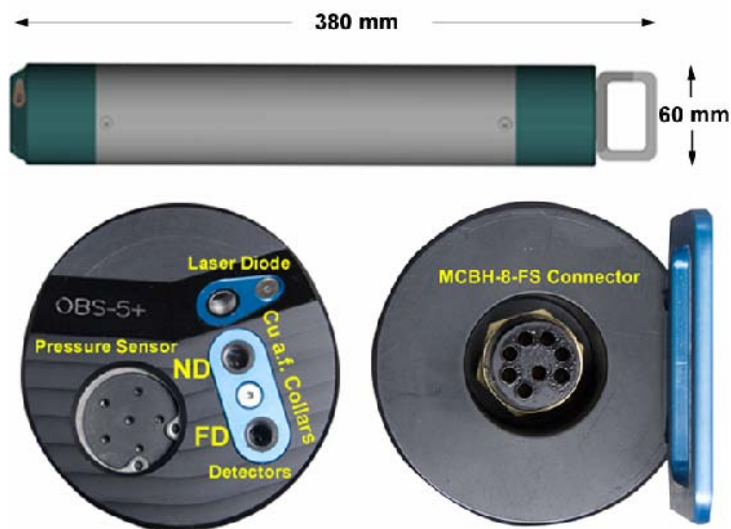
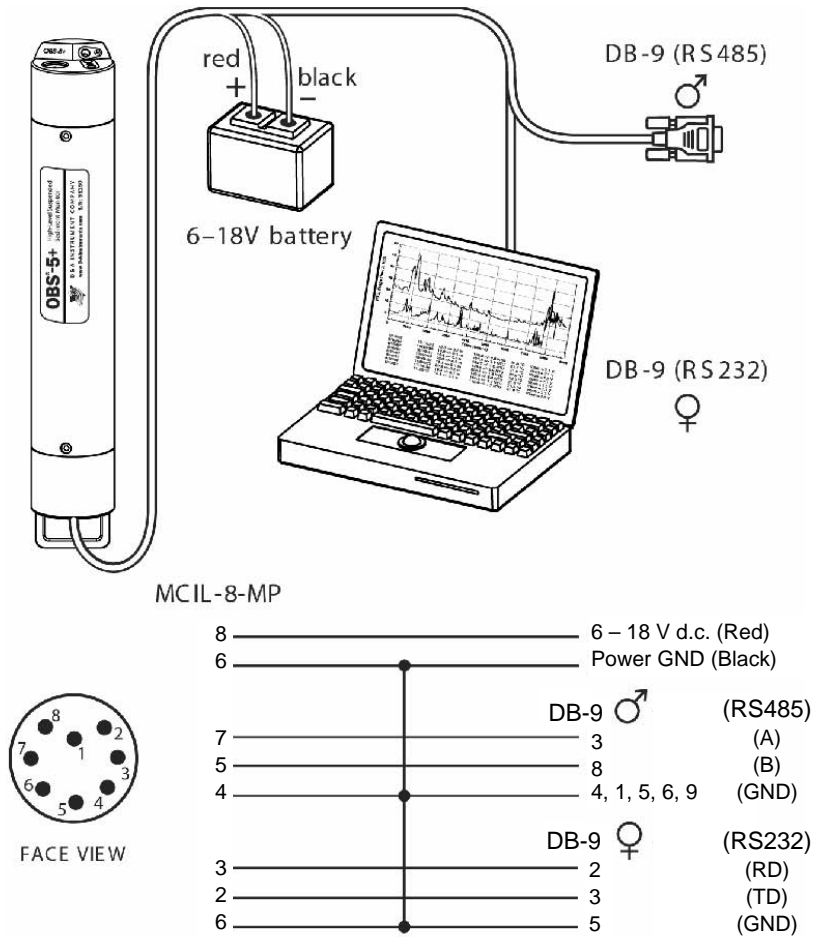

FIGURE 4-1. Dimensions (top), sensor endcap with copper antifoulant (Cu a.f.) collars (left) and connector endcap (right)
FIGURE 6-1. Electrical connections
FIGURE 4-1 shows the dimensions of the OBS-5+, the sensors in the sensor endcap, and underwater connection. Detailed specifications are provided in Section 5, *Specifications*. The OBS-5+ can be operated in Survey or Cyclic Modes. In Survey Mode, the unit sends data via RS-232 or RS-485 to a PC at two hertz, and in Cyclic Mode, it logs as many as 200,000 scans of time, date, depth, and $g\ L^{-1}$ in flash memory (one sample per hour for 23 years). When sampling continuously, the unit will run about 125 hours on three C-size alkaline batteries in 20°C water (about two weeks of eight-hour survey days). When using the instrument for surveys, the data are captured by a PC running the *OBS-5+ software*. Pressure is measured with a silicon strain-gauge pressure sensor and the depth of the instrument is calculated from water density and barometric pressure entered by the operator.
The OBS-5+ will usually be towed with a cable harness for surveys. The serial cable can tow the OBS-5+ without a depressor weight or vane as long as the connector is strain relieved. Strain relief can be provided by attaching the cable to the stainless steel housing (FIGURE 4-1) with a cable grip and a length of 3 mm (1/8 in) wire rope. Install a cable clamp with a 0.5 m wire rope to the serial cable, and clamp the wire rope to the pressure housing with two stainless steel hose clamps, providing a small loop of slack cable to absorb towing forces. The unit can be powered with an external battery, as shown on FIGURE 6-1, and the serial output can be transmitted by either RS-232 or RS-485 protocols. The latter protocol is recommended for cable lengths greater than 25 m. An RS-485/232 serial converter is provided with each unit. An RS-232 to USB converter is an available option.
- 4) Connect the OBS-5+ to a PC with the test cable (FIGURE 6-1).
- 1) Remove dummy plug and connect OBS-5+ to PC with test cable (FIGURE 6-1).